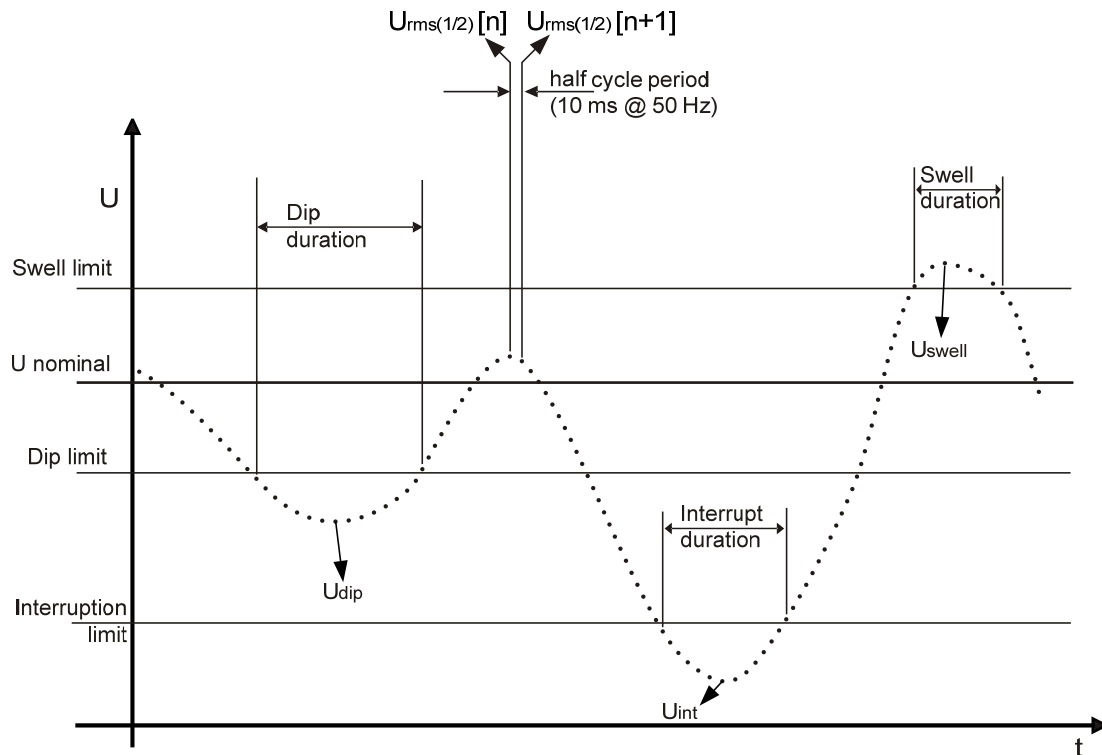

Figure 5.8 Voltage events definition
- On single-phase systems, a voltage dip begins when the $U_{Rms(1/2)}$ voltage falls below the dip threshold, and ends when the $U_{Rms(1/2)}$ voltage is equal to or above the dip threshold plus the 2% of hysteresis voltage (see Figure 5.8)
- on single-phase systems, a voltage swell begins when the $U_{Rms(1/2)}$ voltage rises above the swell threshold, and ends when the U_{Rms} voltage is equal to or below the swell threshold plus the 2% of hysteresis voltage (see Figure 5.8),
- On single-phase systems, a voltage interruption begins when the $U_{\text{Rms}(1/2)}$ voltage falls below the voltage interruption threshold and ends when the $U_{\text{Rms}(1/2)}$ value is equal to, or greater than, the voltage interruption threshold plus the hysteresis (see Figure 5.8),